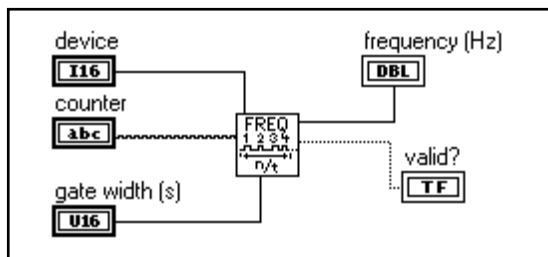

Figure 24-7. Measure Frequency VI
For high-frequency signals, you can use the Easy VI, Measure Frequency, to determine the frequency, as shown in Figure 24-7. You can find the Measure Frequency VI in **Functions»Data Acquisition»Counter**. This VI initiates the counter to count the number of rising edges of a TTL signal at the counter's SOURCE input during a gate period of a specific duration (T seconds). Set the gate width (T) to the pulse width of the gated signal. The measured **frequency** equals **count/gate width**. The **valid?** parameter indicates if the frequency was measured without overflow. Overflow occurs when the counter reaches its highest value, or terminal count (TC). You only need to check the **valid?** parameter if you are using an Am9513 chip. The DAQ-STC